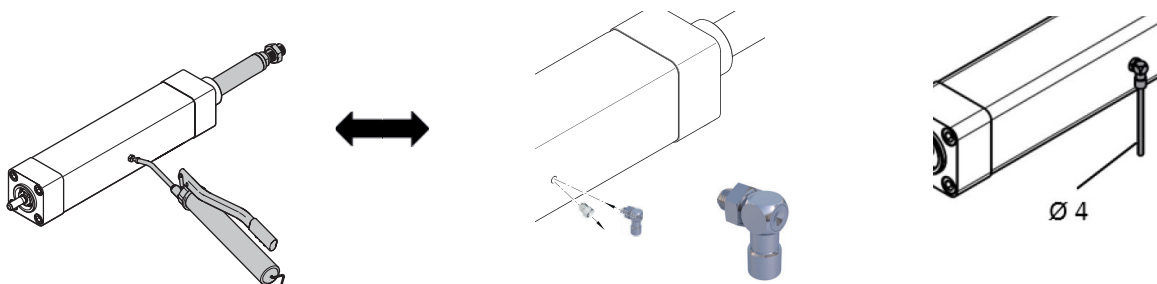

Fig. 37: Lubrication position / options
1. In order to reach lubrication position L_{Lub} , move the piston rod to stroke position S_2 . For this purpose, move S_1 from Table 17 on page 39 the rear end position. ► Fig. 37.
2. For lubrication options LSS, LPG and LHG, grease the ball screw assembly via the lube nipple. For lubrication option LCF, replace the funnel-type lube nipple with the enclosed port for the central lubrication system and grease it ► Fig. 37. Apply the full relubrication quantity in one go. For lubrication option LFL, relubrication is not required.